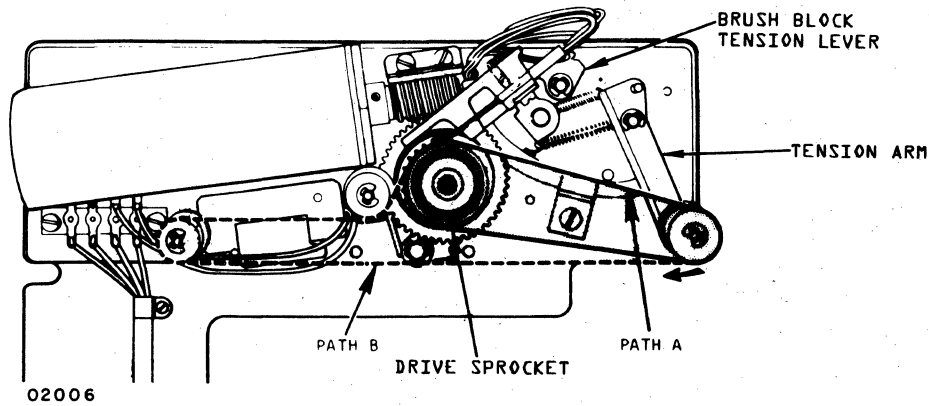

Figure IMP4. Format Tape Path in Impact Printer
- 4) Thread format tape loop between Brush Block and Drive Sprocket making sure that channel 1 is at the inside (see figure IMP4 and IMP5). Be certain that tape holes fit neatly over Drive Sprocket pins.
- 5) Route the remaining loop of format tape using either path A or path B as shown in figure IMP4 depending on tape length. Use path B when tension arm cannot take up all slack with tape in path A, or if tension arm is so extended as to touch housing when tape is in path A.